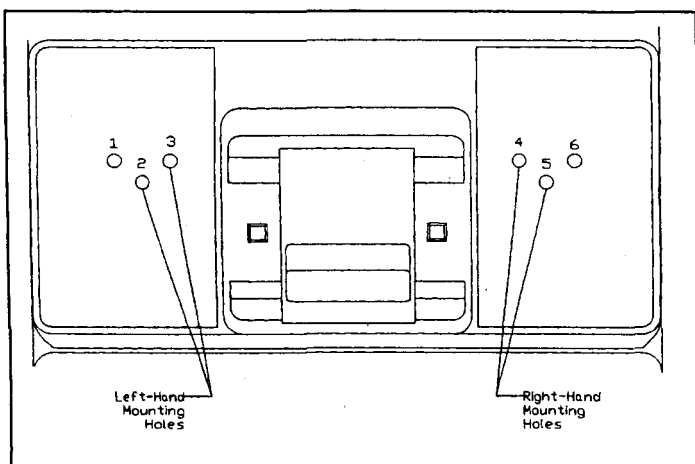

Figure 2-1 Padlockable Handle Lock Hasp Installation
- 2-1. Mounting holes are located in the cover under the nameplate. Find the mounting holes using the locating marks in the nameplate. (See Fig. 2-1)